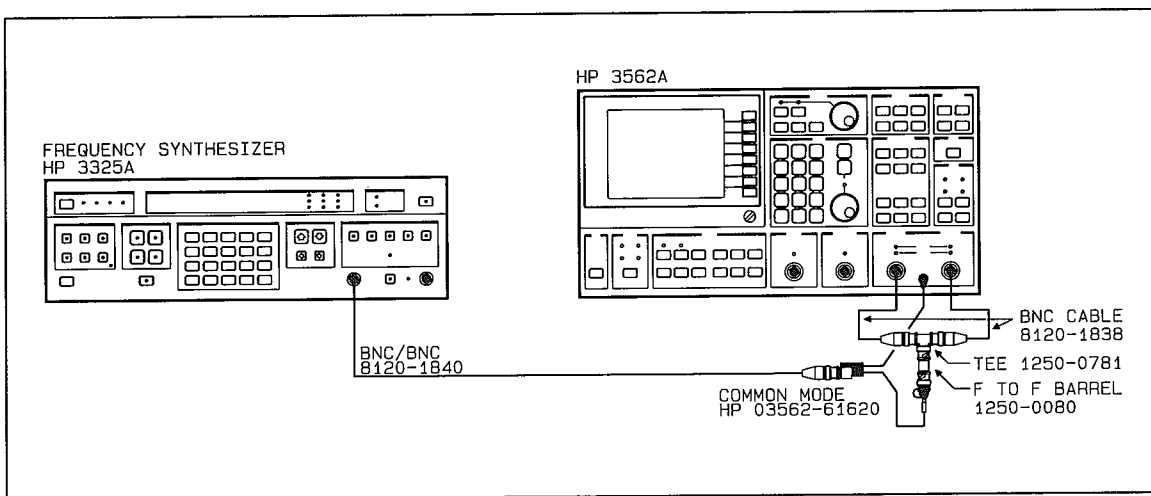

Figure 2-29 Common Mode Rejection Test Setup #2
5. Connect the test instruments as shown in figure 2-29.